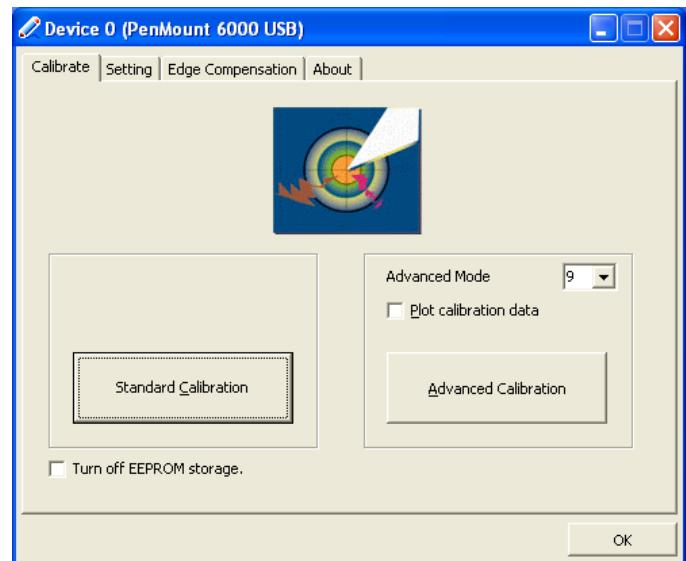

FIGURE 19. Device Configuration Screen
4. Click the “Standard Calibration” button. See FIGURE 19.